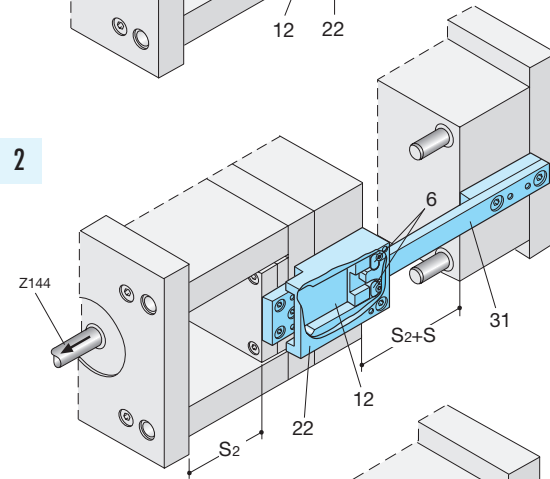

Figure 3
Match the length of the catch housing (12), control plate (22), spacer (102) and control bar (31) in accordance with the mould design, and shorten if necessary (see figure 3).
Drill mounting holes in control plate (22), catch housing (12), spacer (102) and control bar (31) (see figure 3).